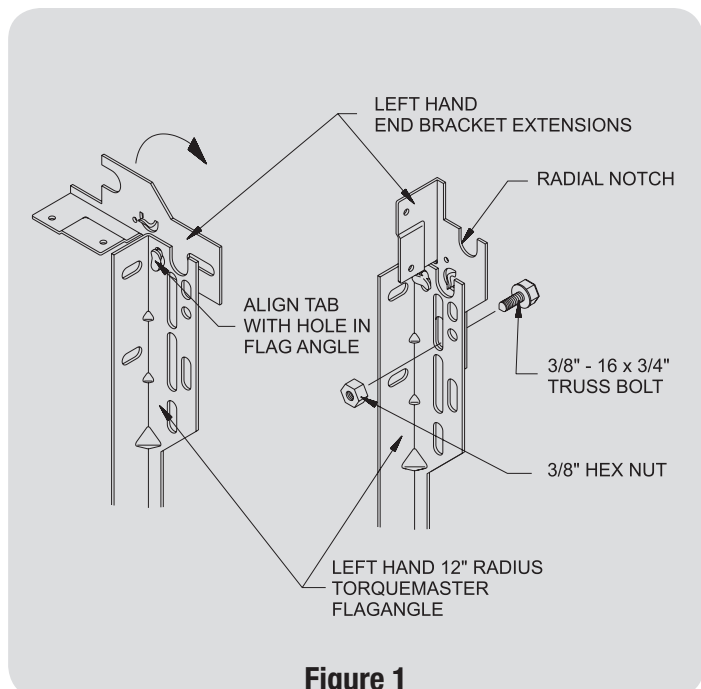

Figure 1
Prior to securing the vertical track assemblies to the jamb as detailed in the product specific installation instruction manual, first secure the end bracket extensions to the 12" radius TorqueMaster™ flagangles. Locate the left and right end bracket extensions with the left and right flagangles. Align and insert the Twistlock™ tab in the end bracket extension with the butterfly hole in the appropriate flagangle and rotate 1/4 turn to lock into place (Figure 1). Secure the end bracket extension to the flag angle using (1) 3/8 - 16 x 3/4" truss bolt and hex nut.